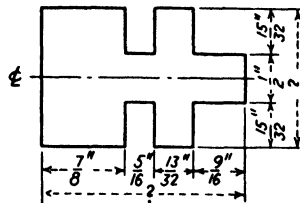

Fig. 293.
4. Find the over-all dimensions of the piece in Fig. 293.